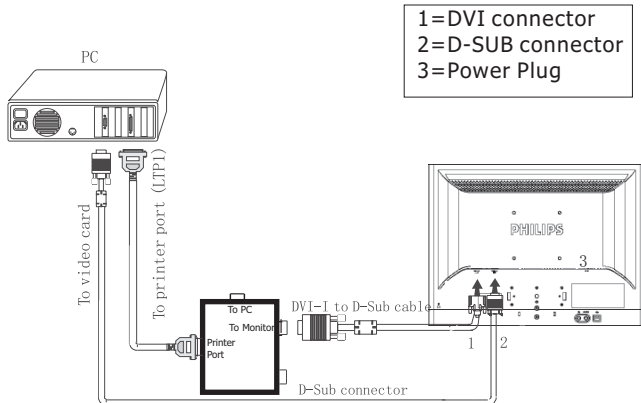

Fig.17
Step 1: After initialize alignment box, connecting all cables and box as shown in Fig. 17